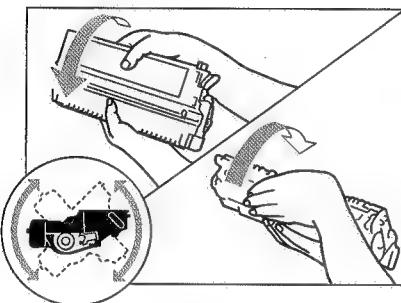

Figure 6-1
- When setting the cartridge to the copier or if the toner starts to run short, hold the cartridge horizontally as shown in Figure 6-1, and rotate it in both directions about 90° to even out the toner inside it. Do not shake the cartridge or hold it in a different way; otherwise, toner may leak out the cartridge.